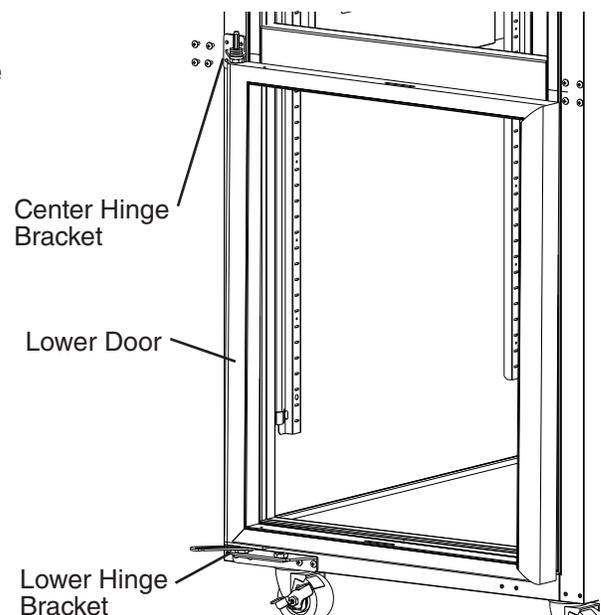

Fig. 63
- 16) Place the now lower door onto the lower hinge bracket in the closed position. See Fig. 63. While supporting the lower door, secure the center hinge bracket to the cabinet.